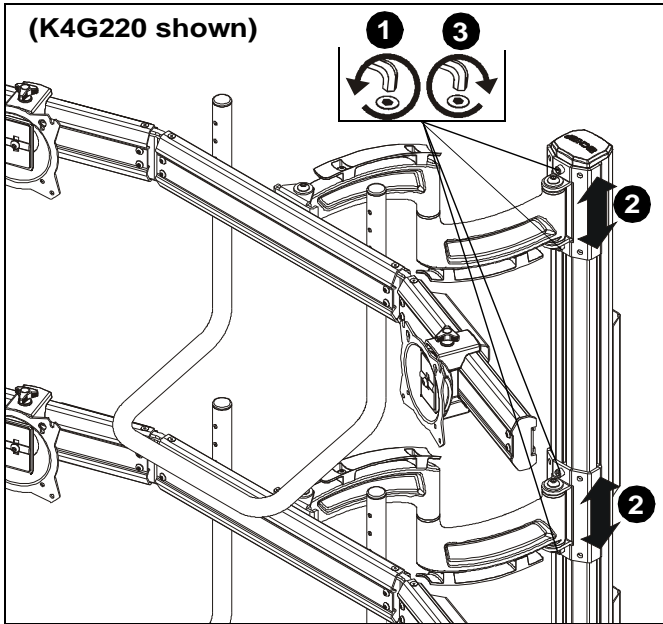

**Figure 12**
1. Use handles (G) to extend or collapse column arms as desired. (See Figure 12)
2. (Optional) Loosen or tighten column arm pivot tension screws as desired to increase or decrease pivot tension. (See Figure 12)